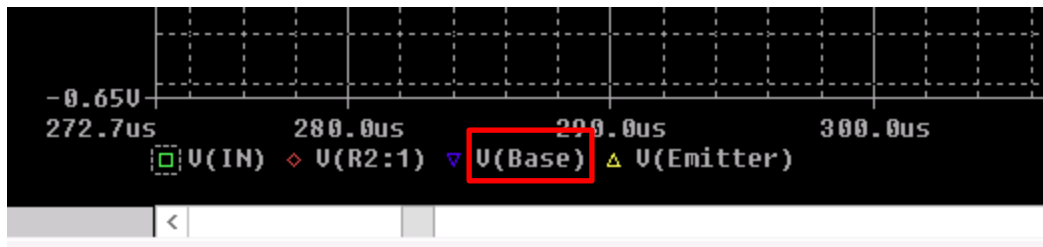

Figure 2-31: V(base) tagged for cursor tracking
49. At the lower-left corner of the waveforms (the Legend; see Figure 2-31), left-click on the **symbol** for V(base) (shown as a triangle in the figure; your plot may differ). A